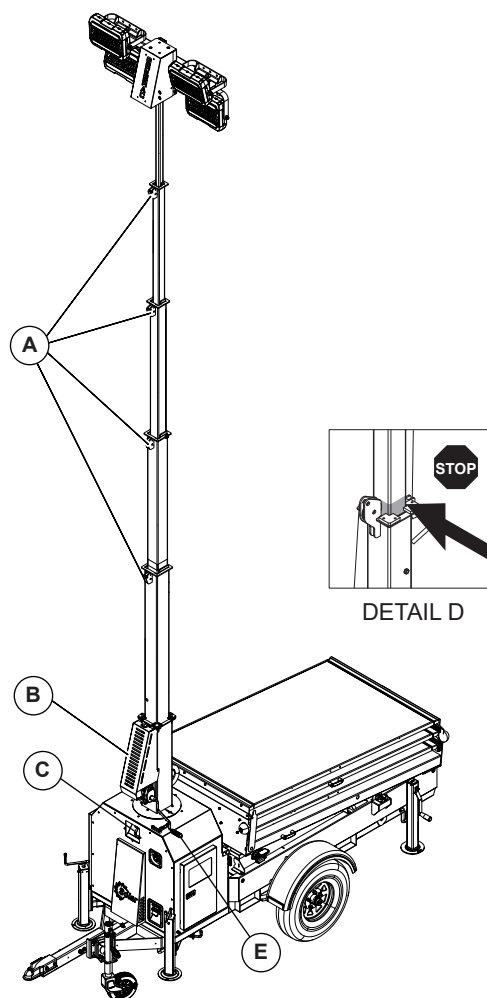

Figure 3-7. Raising Mast
2. See Figure 3-7. Inspect the mast cables for excessive wear or damage. Verify the cables are properly centered in each pulley (A). Inspect the electrical cord for damage.
3. Prior to raising the mast inspect all cables including at the winch cable guard (B) through the viewing holes on side of the cable guard (B).
4. Rotate the winch (D) to slowly extend the mast. Verify the coiled electrical cord is extending at the top sections of the mast. Stop extending the mast when the colored mark on the second mast section is visible as seen in Detail C.